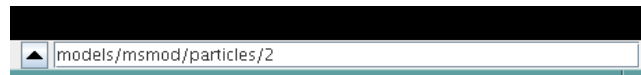

Figure 9: The selection display widget.
The selection display Figure 9 at the bottom of the main ArtiSynth frame shows the full path name of the last component added to the selection list. This is useful for identifying components in detail.
2. Click on the “up” arrow located at the left of the selection display (Figure 9). This will also select the parent of the currently selected component.